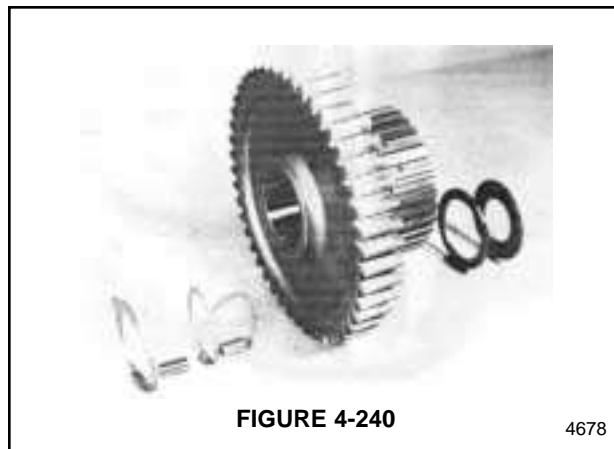

FIGURE 4-240
6. Apply grease to the bearing rollers and the washers. See Figure 4-240. Install these parts into the spur gear. The longest rollers must be assembled closest to the outside of the spur gear hub.